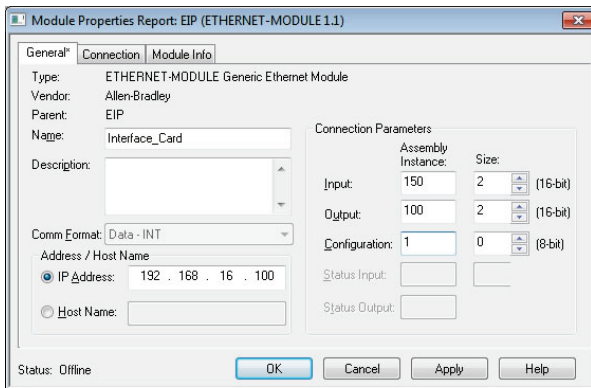

Figure 52: Interface Card Module Properties
- 4) The module properties dialog box will open (refer to Figure 52). Enter a Name which will allow easy identification of the inverter on the network (the tags created in RSLogix 5000 will be derived from this name). Because all inverter data is stored as 16-bit function codes, change the "Comm Format" selection to "Data-INT". Enter the IP address of the targeted interface card.